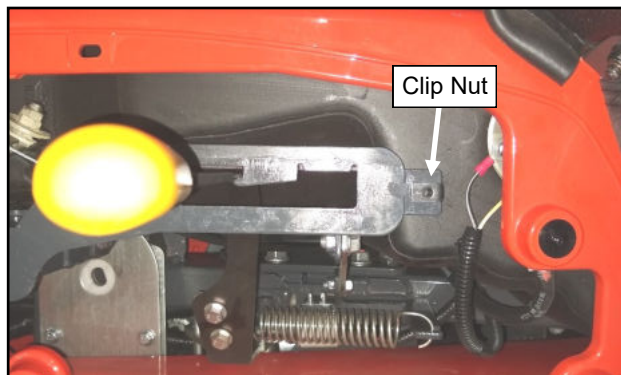

Fig. 1.17 (Clip Nut Orientation)
- 1.17 See fig. 1.17. Slip the supplied clip nut onto the tab rearward of the blade engagement lever.